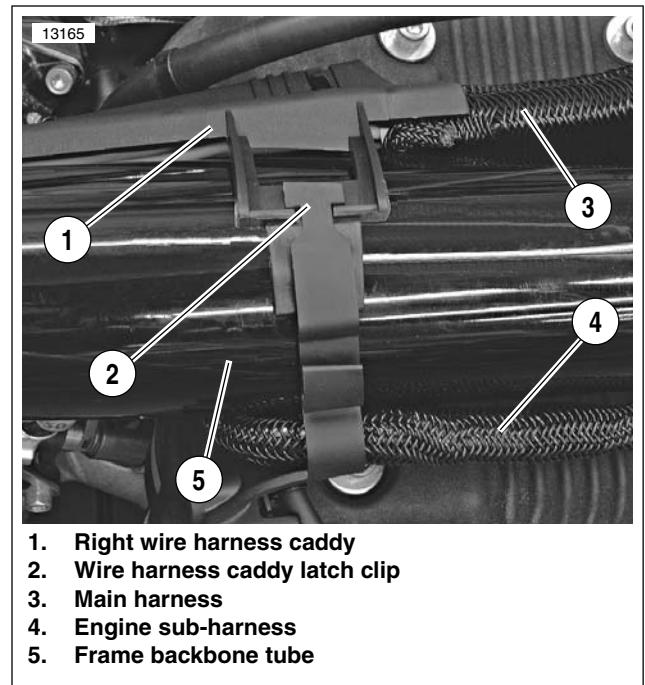

Figure 7-118. Right Wire Harness Caddy Latch Clip
6. See Figure 7-118. Unhook caddy latch clip (2) from right wire harness caddy (1).
8. See Figure 7-118. Install caddy latch clip (2) onto right wire harness caddy (1). Make sure engine sub-harness (4) is routed in loop in caddy latch clip.